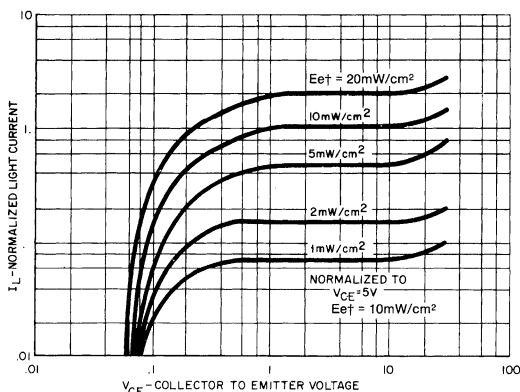
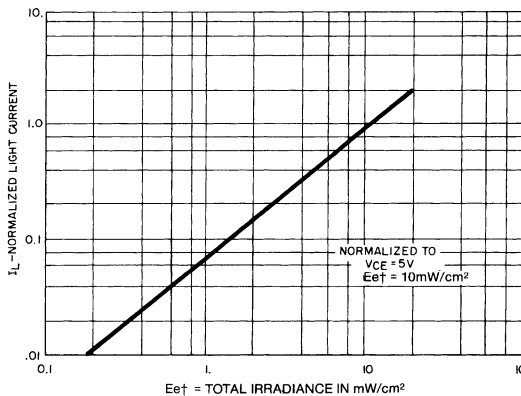

Fig. 1. Light Current vs. Collector to Emitter Voltage ST1082
Fig. 2. Normalized Light Current vs. Radiation ST1087
8. Figure 1 and figure 2 use light source of tungsten lamp at 2870°K color temperature. A GaAs source of 3.0 mW/cm² is approximately equivalent to a tungsten source, at 2870°K of 10 mW/cm².